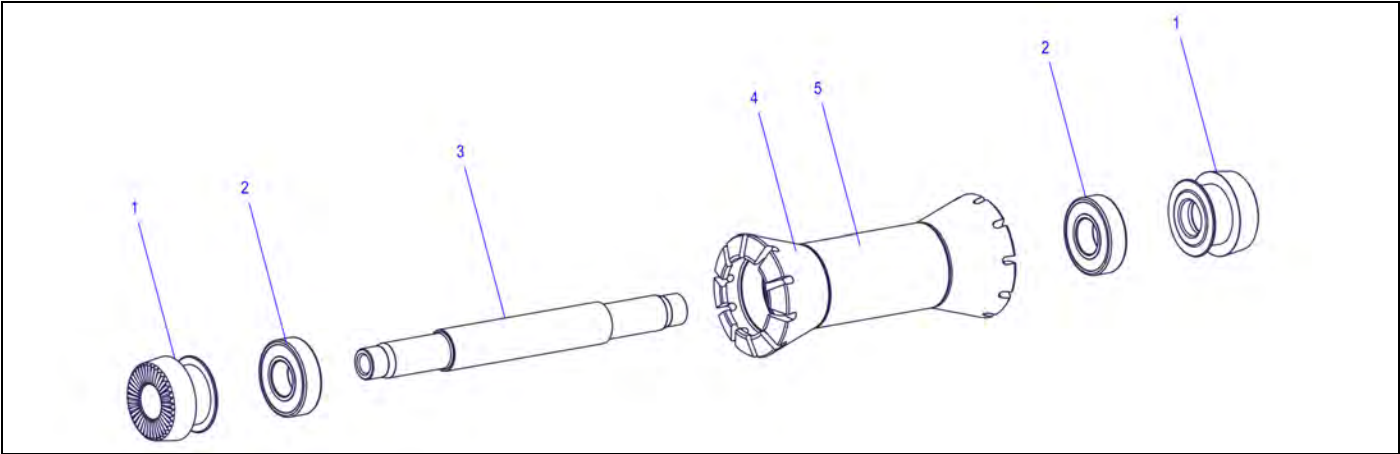

figure 3.2: Overview: front wheel with inserted adapters
1. Remove the adapters (fig.3.2/1) by hand.
1. Hit the axle (fig.3.2/3) with a nylon hammer and drive out the first bearing (fig.3.2/2).
2. Take the bearing (fig.3.2/2) from the axle (fig.3.2/3).
3. Slide the axle (fig.3.2/3) through the second bearing (fig.3.2/2).
1. Grease the bearing seats and the inner surface of the hub shell (fig.3.2/4).
2. Slide the axle (fig.3.2/3) into the installation tool.
3. Slide the hub shell (fig.3.2/4) onto the installation tool and the axle (fig.3.2/3).
5. Put the second installation tool onto the bearing (fig.3.2/2) and drive in the bearing using a nylon hammer.
1. Grease the bearings and the inner surface of both adapters (fig.3.2/1).
2. Put the adapters (fig.3.2/1) onto the hub by hand.